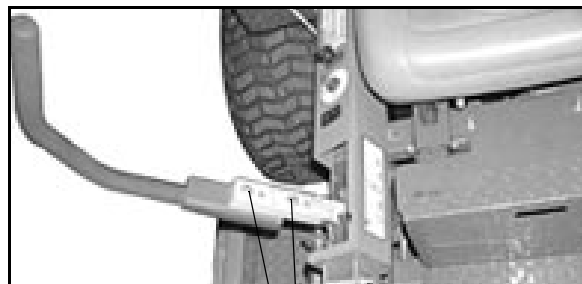

Figure. 11
- a. Remove the nuts from the lap bar mounting bolts (see Fig. 11).